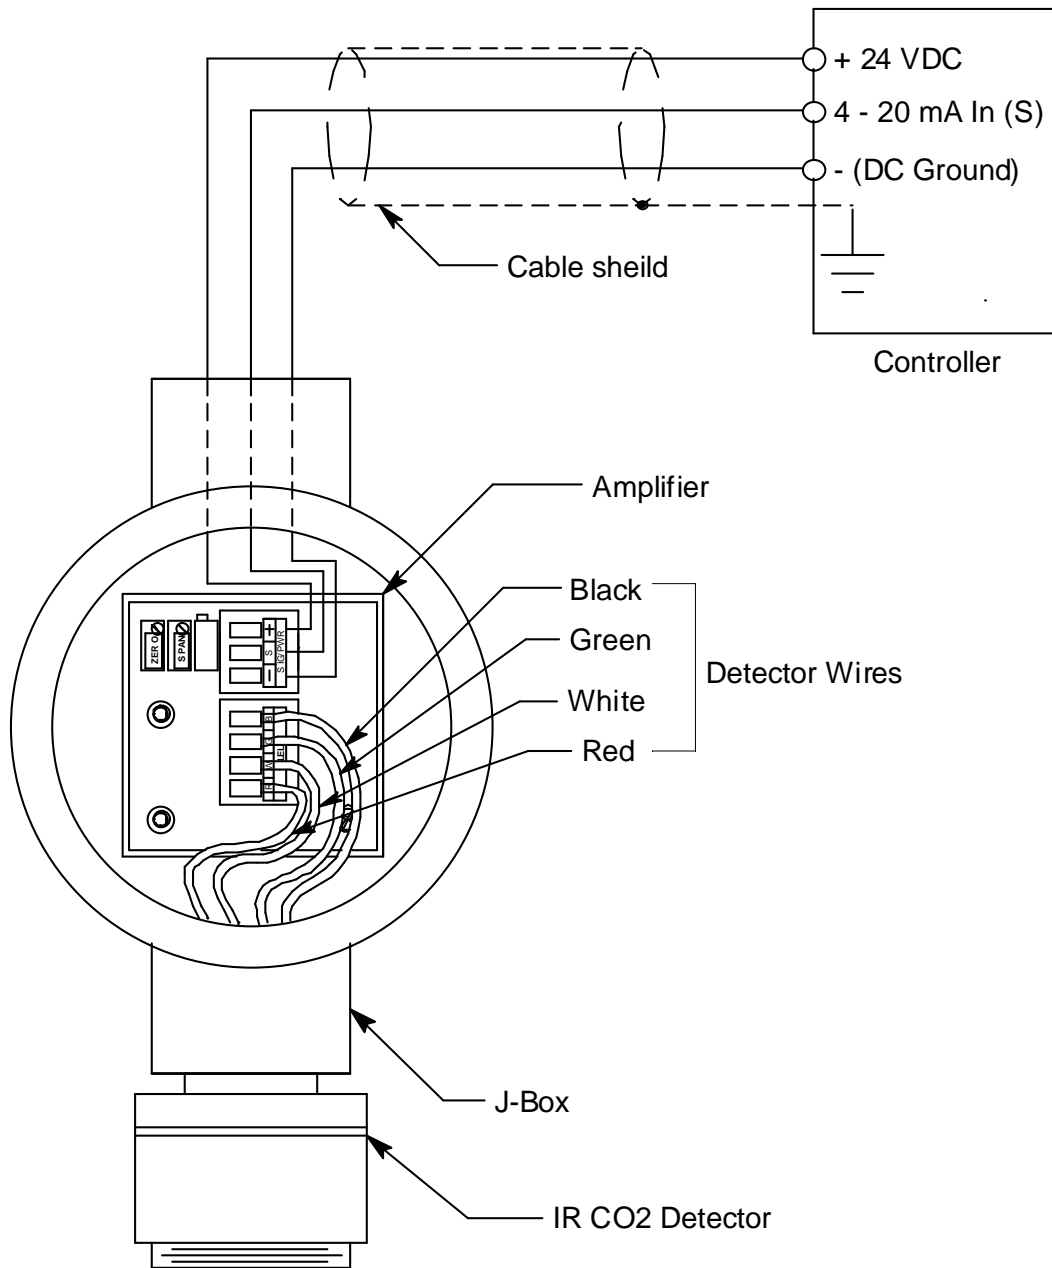

Figure 4: Wiring the CO₂ Transmitter to a Controller
4. The detector leads are factory wired. Verify that the detector leads are wired to the amplifier's detector terminal strip as shown in Figure 4.
7. Pull out the controller terminal strip, and connect the three wires to the terminal strip as follows (see Figure 4).
11. Connect the wires to the applicable detector/transmitter terminal strip at the controller as shown in Figure 4.